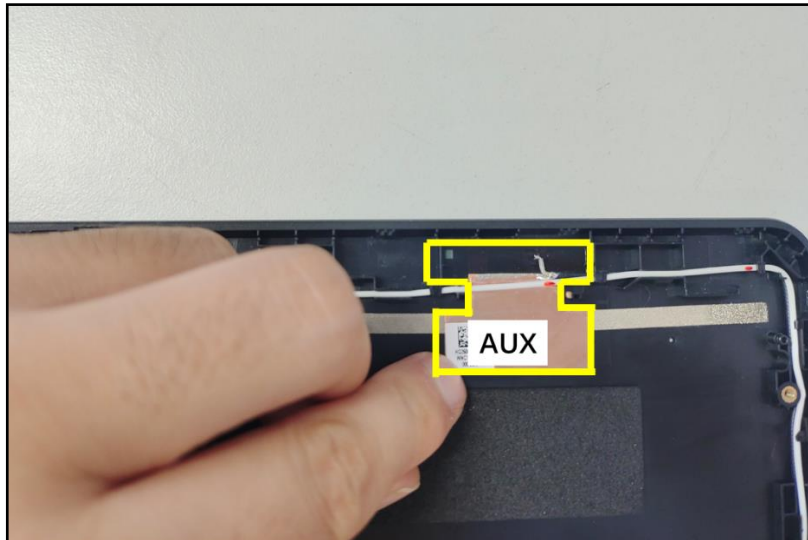

Figure 3-52. Replacing the AUX Antenna
1. Place the AUX antenna to the left side of the LCD cover. Make sure the antenna PCB circuit area is properly seated and placed onto its compartment highlighted by a green rectangle as shown in Figure 3-52.
2. Adhere the grounding foil of the AUX antenna as marked in yellow (Figure 3-52).